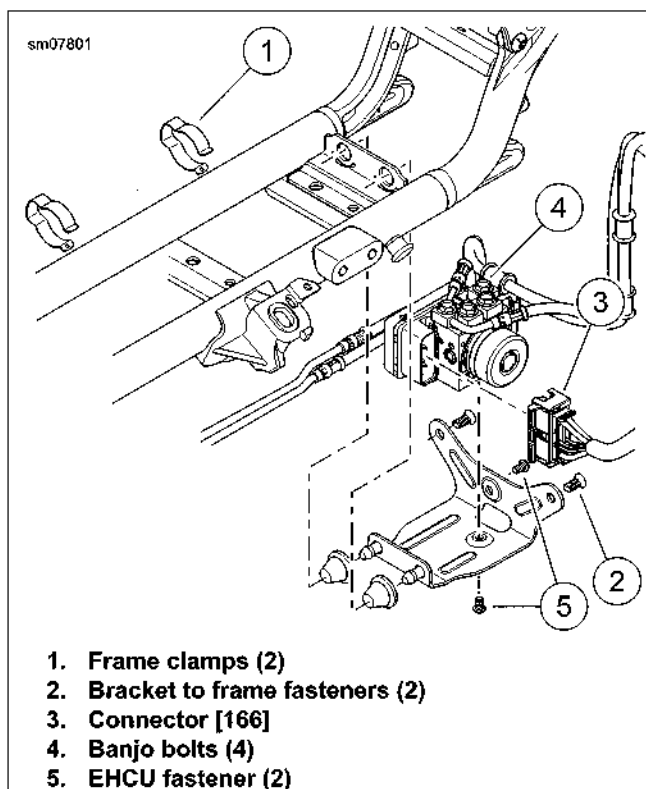

Figure C-4. EHCUC and Bracket
4. See Figure C-4. Remove frame clamps (1).